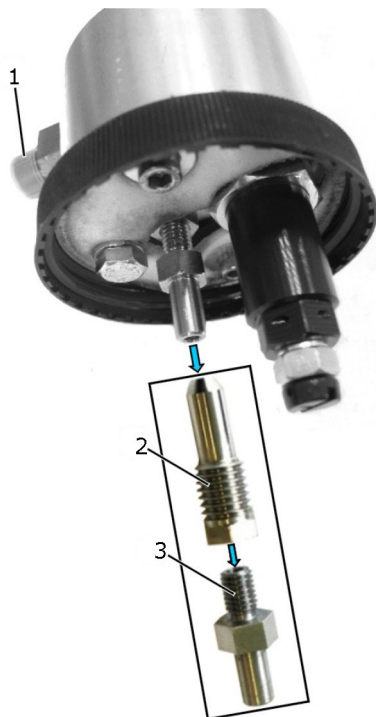

Abb. 17: Pressure sensor module (opened)
! Solidified test oil residue can block the small orifice in the restrictor sleeve (fig. 17, item 2) and result in false measurements.
2. Remove drain fitting (fig. 17, item 3).
3. Remove restrictor sleeve (fig. 17, item 2).
5. Blow compressed air through the hose fitting (fig. 17, item 1) to clean the restrictor opening.
6. Screw in the restrictor sleeve (fig. 17, item 2) and tighten to a tightening torque of 20 Nm.
7. Screw the drain fitting (fig. 17, item 3) into the restrictor sleeve.